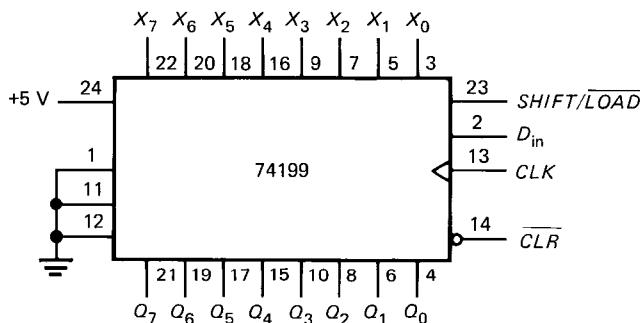

Fig. 8-30
- 8-4. A 74199 is an 8-bit shift-left register with a single control signal, as shown in Fig. 8-30. When $SHIFT/LOAD$ is low, the circuit loads the X word on the next positive clock edge. When $SHIFT/LOAD$ is high, the register shifts the bits to the left.
- 8-5. The clock frequency is 2 MHz. How long will it take to serially load the shift register of Fig. 8-30?
- 8-6. In Fig. 8-30, $Q = 0001\ 0110$. If $SHIFT/LOAD$ is high and D_{in} is high, what does Q equal after three clock pulses?